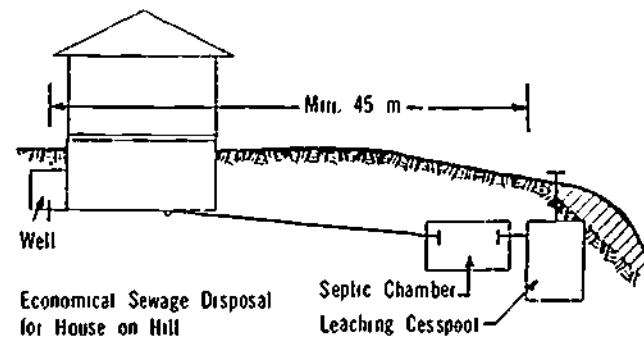

Figure 24-2. A Simple Sewerage System Near a Hillside
c) If a closet is desired in the basement and the building is located near a hillside, a comparatively simple sewerage system, if approved, may be installed as shown in Figure 24-2. A point worth remembering is that by eliminating the siphon chamber, with its 560 mm drop, a simpler installation may be made if conditions are suitable. (See Section 8 in this part of the manual.)